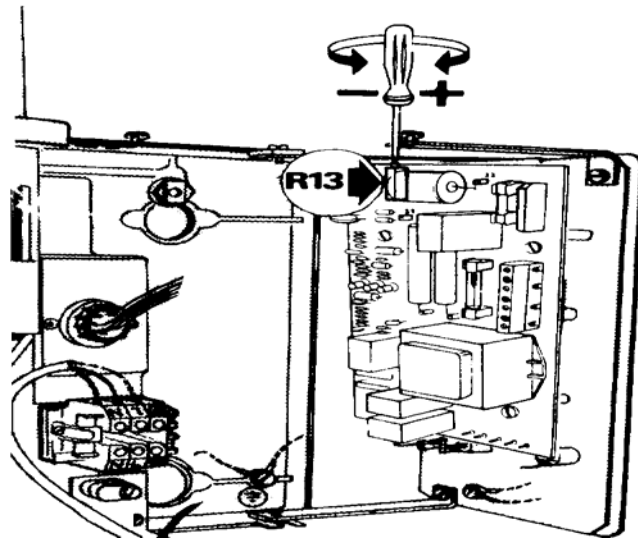

Figure 2-10. Pulse count adjustment.
(1) Make an exposure.
(2) Adjust the pulse using potentiometer R13 on circuit board D1 until the proper pulse count is obtained. Refer to figure 2-10.